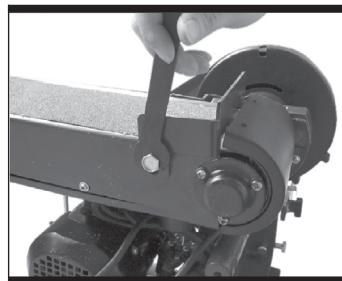

Fig 8-1
- 1) Mount the washer as shown in Fig 8-1 but do not fasten.
- 3) Fasten the washer as shown in Fig 8-1.